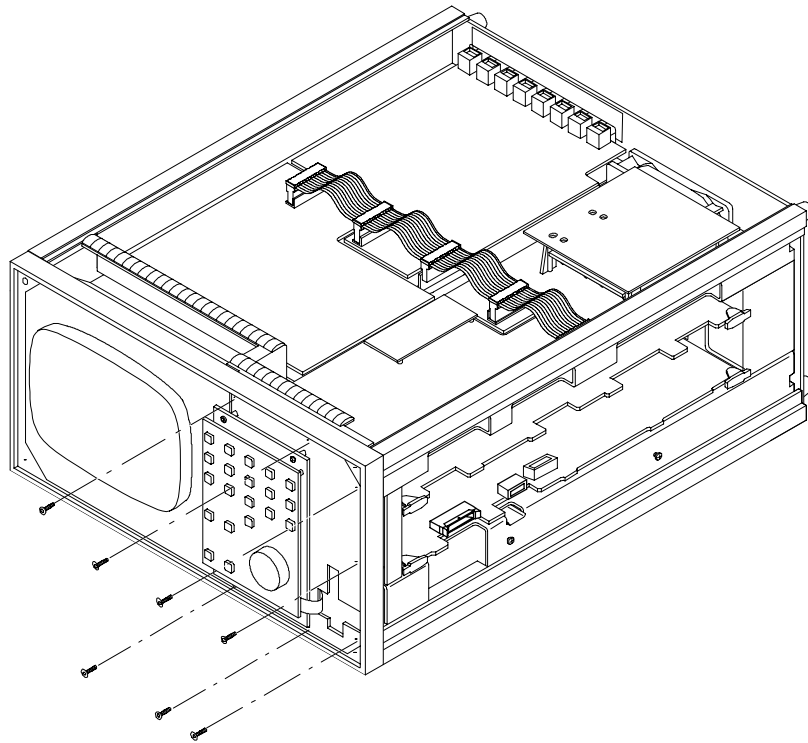

Figure 5: Removing the retaining screws from the Keypad board
- a. Remove the seven flat-head screws holding the Keypad board assembly bracket to the VM700T front frame. See Figure 5.
- d. Install and tighten the flat-head screws that hold the Keypad board assembly bracket to the instrument front frame. See Figure 5 on page 8.